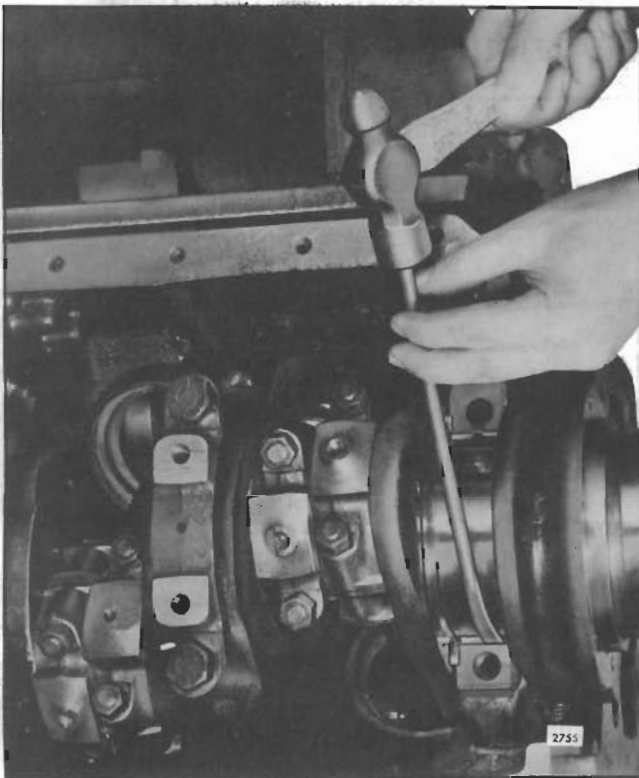

Fig. 4 - Removing Upper Rear Main Bearing Shell
b. Remove the rear main bearing upper shell by tapping on the edge of the bearing with a small curved rod, revolving the crankshaft at the same time to roll the bearing shell out as shown in Fig. 4.